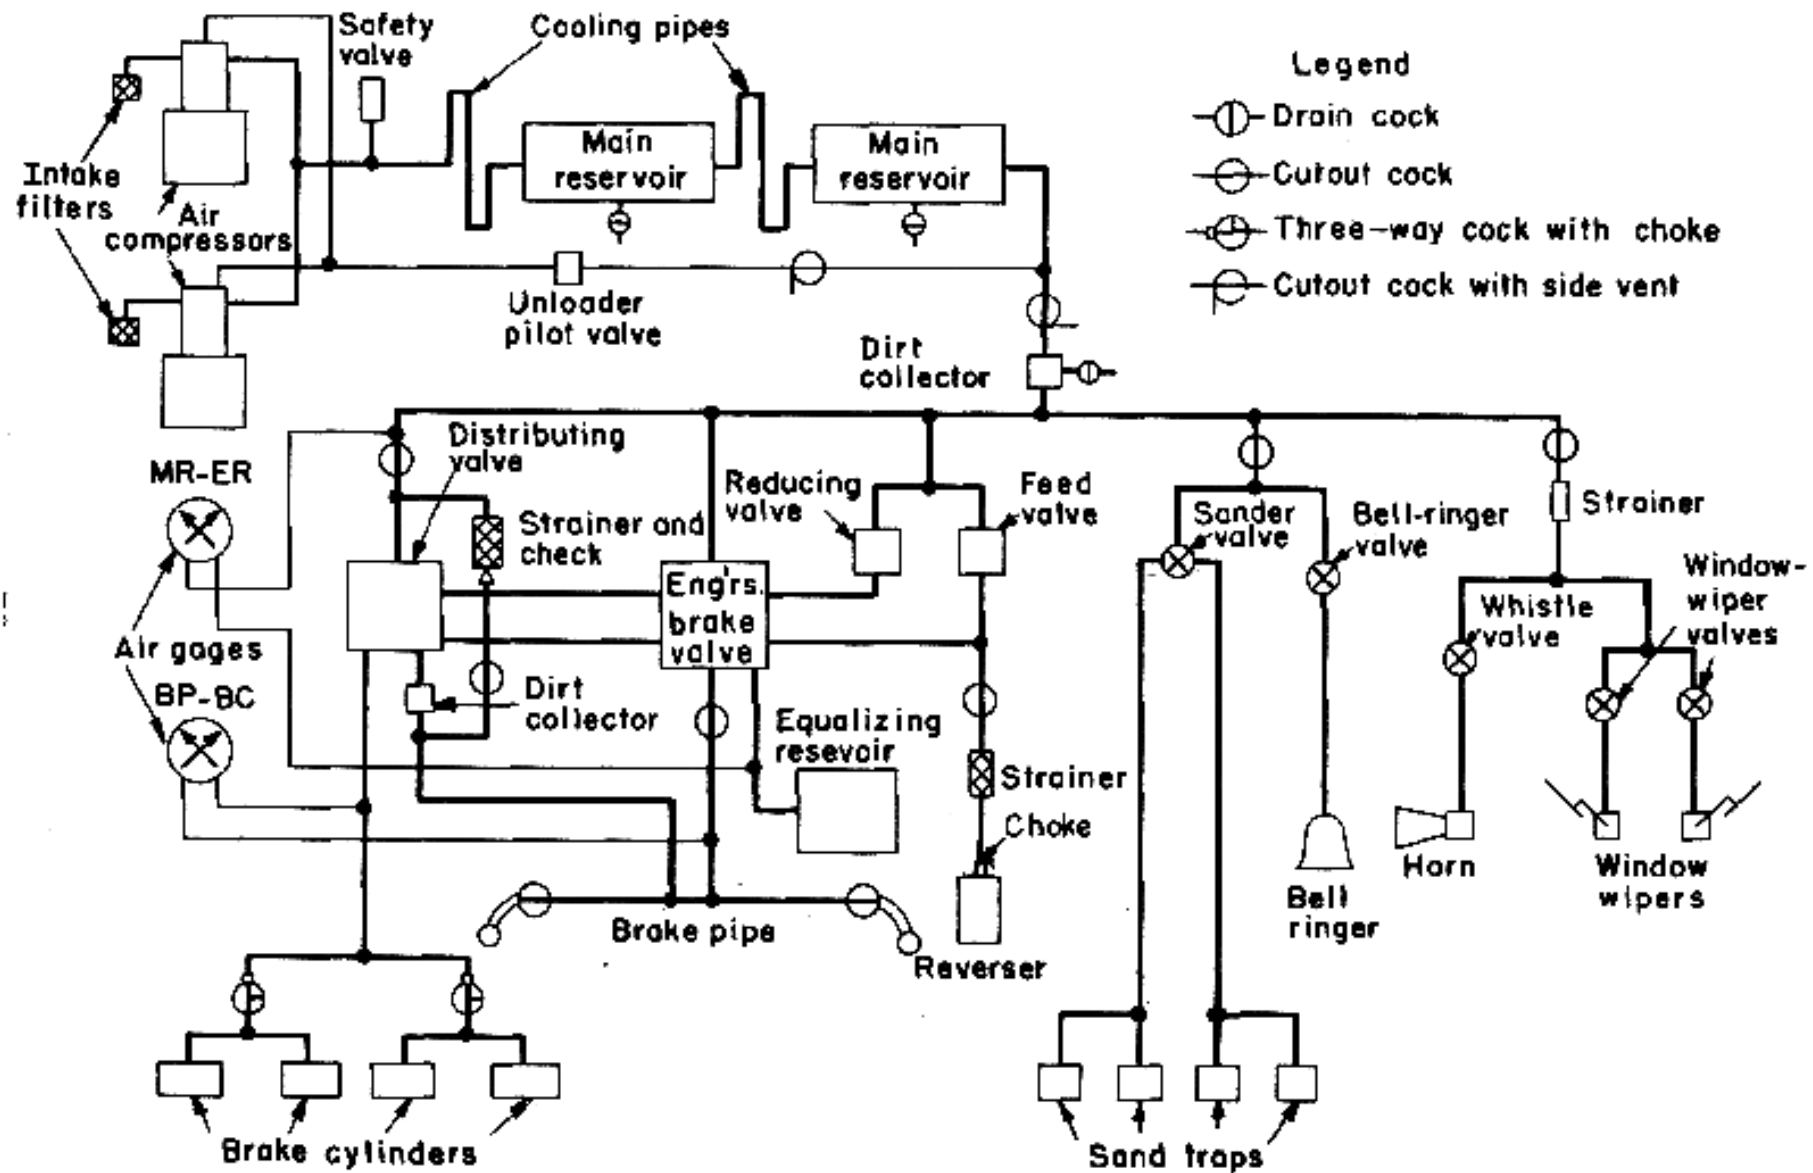

Fig. 32 Schematic daigram of air piping
(See Fig. 32)
17. Various cutout cocks hose, couplings, etc.-the location and uses of which can be readily seen by referring to piping diagram, Fig. 32.